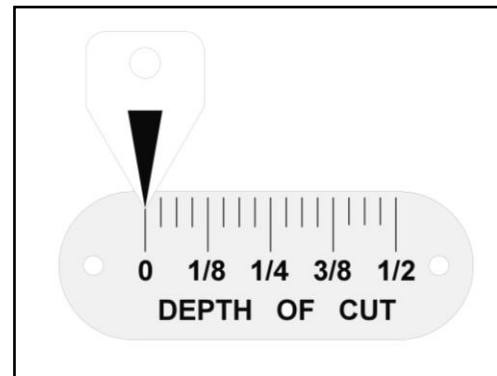

Fig. 6
3. Support the end of the table and at the same time, raise it up slightly. Snug the gib screws. Any adjustment of the gib is very minute, perhaps even 1,000th of an inch. If the gibs are too tight the adjustment handles will be difficult to turn. If the gibs are too loose the tables could sag. Keep checking the level of the tables with a straightedge until leveling is achieved. When tables are level (Fig. 6), tighten the lock screws.